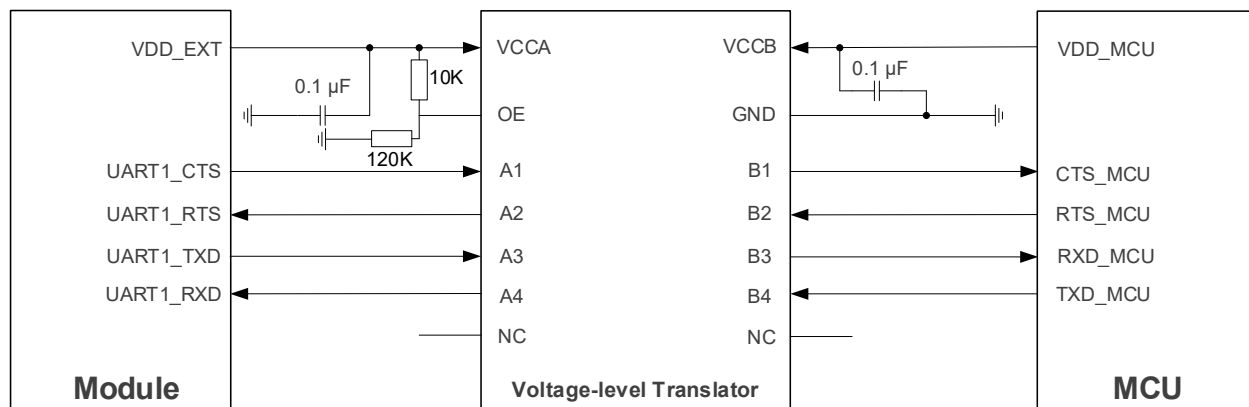
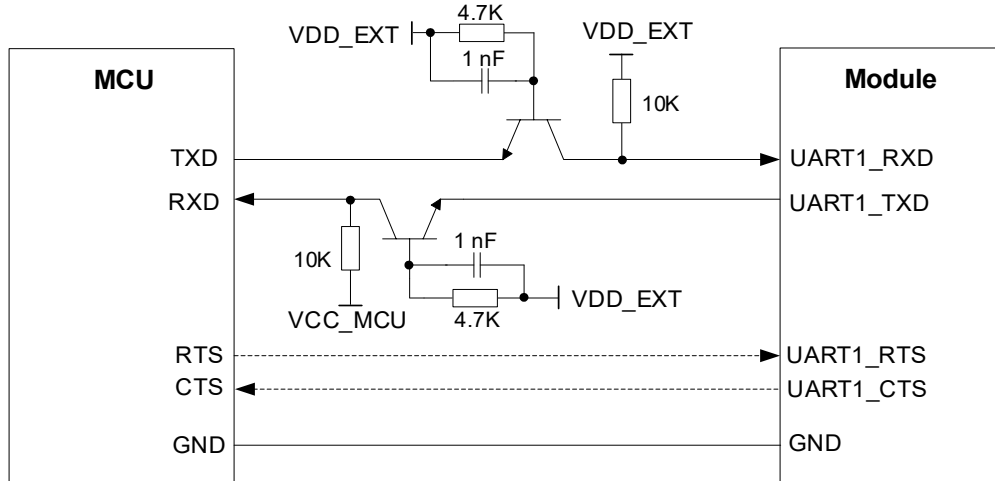

Figure 19: Reference Design of UART with Level-shifting Chip (UART1)
Figure 20: Reference Design of UART with Transistor Level-shifting Circuit (UART1)
3. The level-shifting circuits (**Figure 19** and **Figure 20**) take the UART1 as an example. The circuits of debug UART, UART2, UART3 and GNSS debug UART are connected in the same way as the UART1.